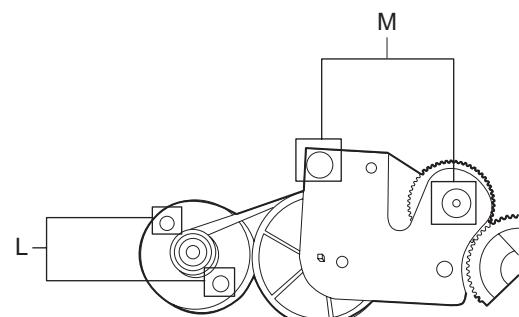

Fig.17
3.1.10 Replacing the loading motor and rotor belt of the CD changer (See Fig.17)